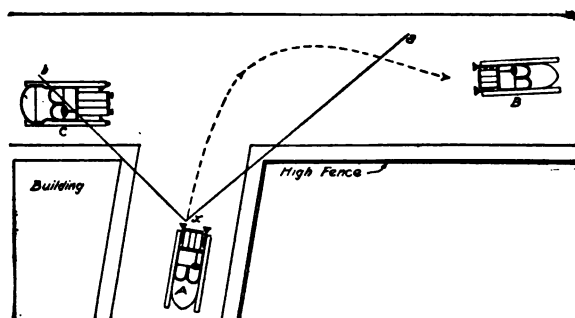

Fig. 32. How to Negotiate a Blind Turn
**On Approaching a Blind Turn.** Frequently encountered in suburban towns is the blind turn, where a cross street or road terminates in one of the main roads and the view from either road is obscured by buildings or fences until the turn is reached. At such turns the chances of accident are greater than at road crossings, as at these latter places an autoist has three directions in which he can turn to escape collision, while at blind turns there are but two, with the chances in favor of the car on the side road. Referring to the sketch, Fig. 32, *A* is a car about to enter the main road and proceed thereon in the